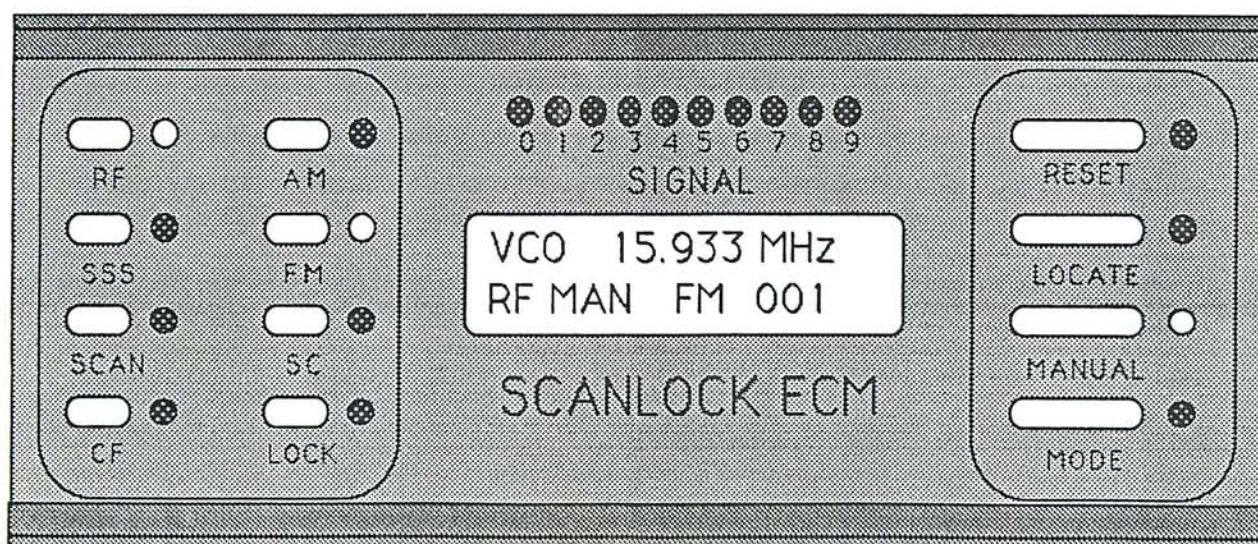

Figure 7
**Press the MANUAL button and the display will change to Figure 7.**